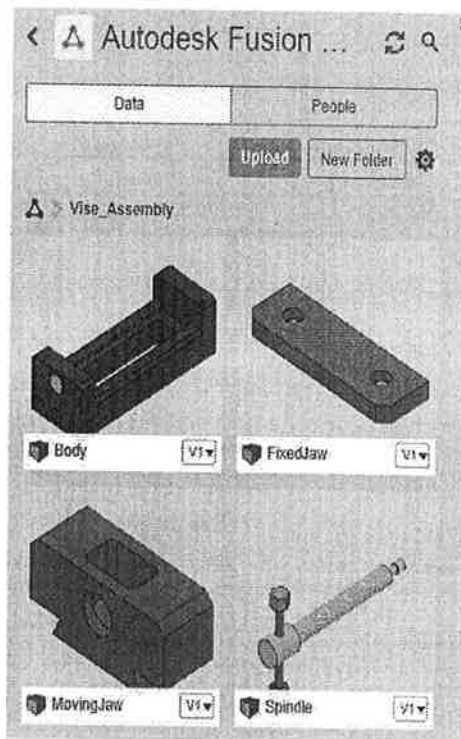

Figure 15–6
7. Once the files have been uploaded, click **Close** in the Job Status window. The files should display as shown in Figure 15–6.